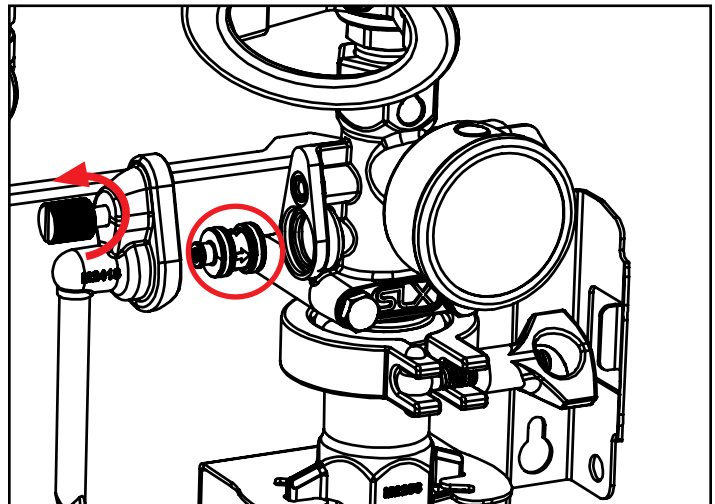

Fig. 10.2: Chemical inlet check valve removed
3. Loosen the thumb screw on the elbow by hand or using a flathead screwdriver. [Fig 10.2]
5. The check valve will be seated either inside of the elbow or the body. Grab it and pull to remove. [Fig 10.2]